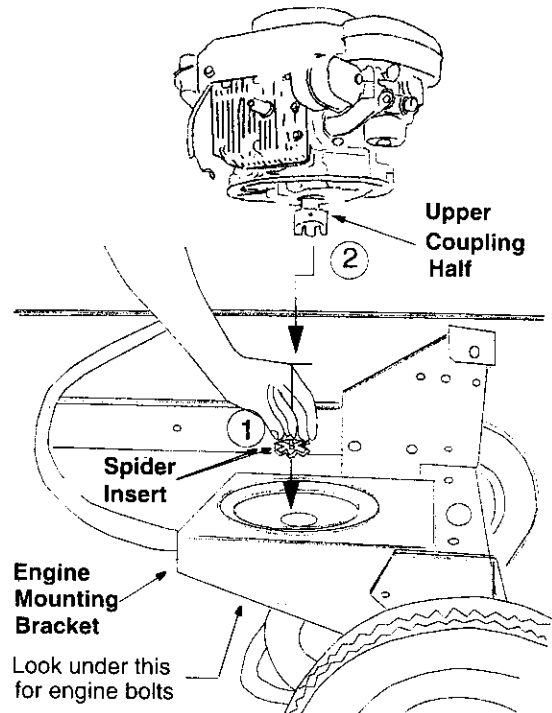

Figure 16
- Place a new "spider" insert into the pump coupling half. See Figure 16, 1. Make sure the key is on the pump shaft. The key way in the lower coupling half has to fit over the key on the pump shaft.
be space between end of the engine and the coupling half. See Figure 16, 2.